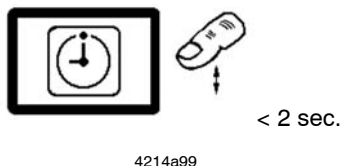

Fig. 29 Acknowledging receipt of a flashing low-level or fault indication
*If a malfunction is present (flashing display **\* ER \***), it can be acknowledged before triggering an additional lubrication cycle (see fig. 29). However, this is not compelling.*